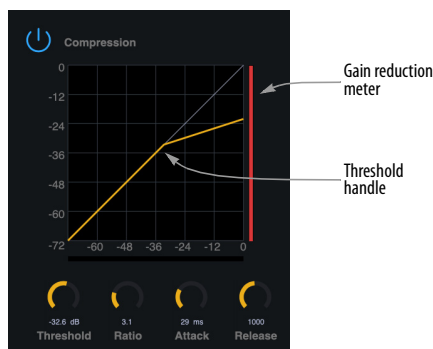

Figure 6-2: The Compressor.
All analog input channels (items 1 and 2 on page 38) provide a *Compressor* (Figure 6-2).
The *Compressor* lowers the level of the input when amplitude of the signal is above the Threshold. The amount of attenuation is determined by the *Ratio* and the input level. For example, if the input is 6 dB above the *Threshold* and the *Ratio* is 3:1, the compressor will attenuate the signal to 2 dB above the Threshold. When the input level goes above the threshold, the attenuation is added gradually to reduce distortion. The rate at which the attenuation is added is determined by the *Attack* parameter. Likewise, when the input level falls below the Threshold, the attenuation is removed gradually. The rate at which the attenuation is removed is determined by the *Release* parameter. Long Release times may cause the audio to drop out briefly when a soft passage follows a loud passage. Short Release times may cause the attenuation to “pump”, a term used to describe the sound of the compressor when the average input level quickly fluctuates above and below the Threshold. These issues can be addressed by adjusting the parameters. The *Gain reduction meter* (Figure 6-2) displays the attenuation applied by the compressor.